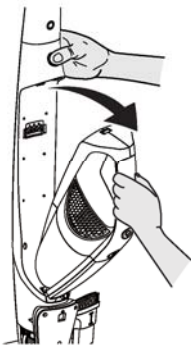

Fig.15
- To remove the handheld vacuum cleaner, press the release button and detach from the main body (Fig.15).